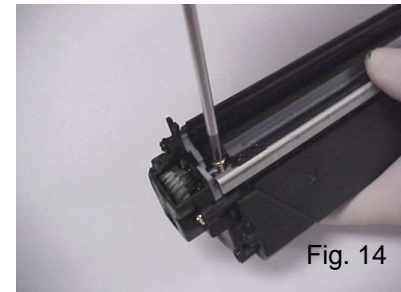

Fig. 14
15. Remove the two screws that fasten the doctor blade to the toner hopper (Fig. 14).